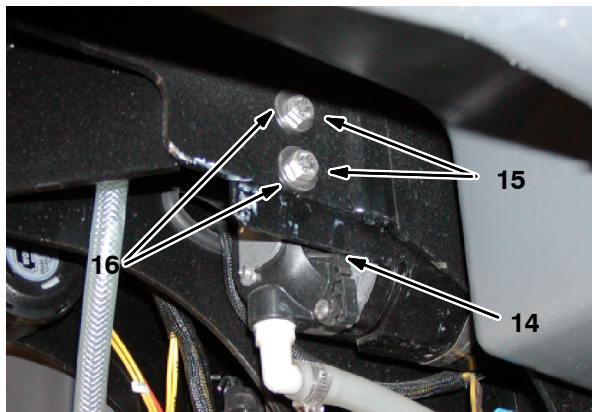

FIG. 5
3. Use two hex screws (15) and two flat washers (16) to mount the pump bracket (14) to the frame of the machine. Refer to Fig. 5.